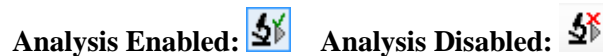

Figure 3. Toggle Analyze File Before Executing Button
- Click the **Toggle Analyze File Before Executing** button on the toolbar to disable the TestStand Sequence Analyzer. This button now indicates that analysis is disabled, as shown in Figure 3.